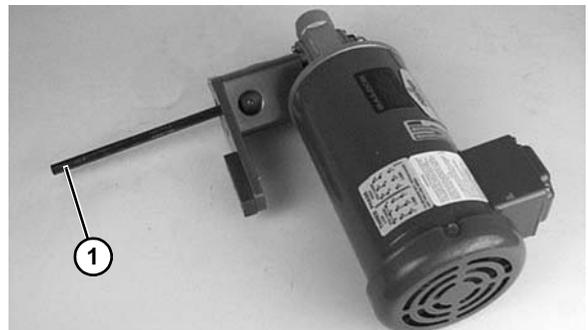

Figure 11
4. Insert hex shaft (Figure 11, item 1) into coupling.